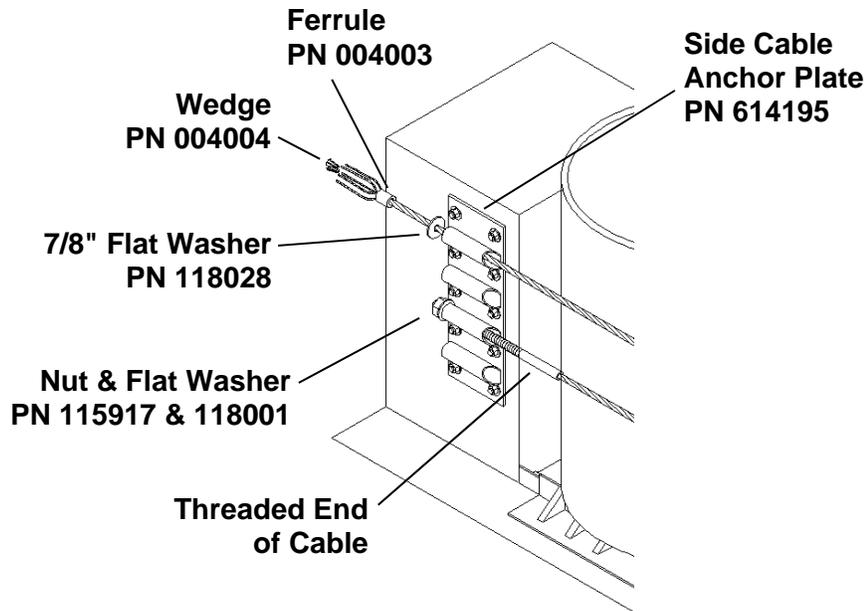

Figure 21 - Routing First Cable
- A. Slide the threaded end of a Restraining Cable through the third guide down and attach flat washer and nut as shown in Figure 21. Tighten the nut so it is flush with the end of the threaded end of cable.
Use the nuts on the threaded end of the cables to tension the cables (Figure 21).